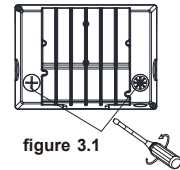

figure 3.1
Step 1: Open the metal plug and plastic plug count (figure 3.1), then slide the switch up and down to CCT controller or photocell controller in your